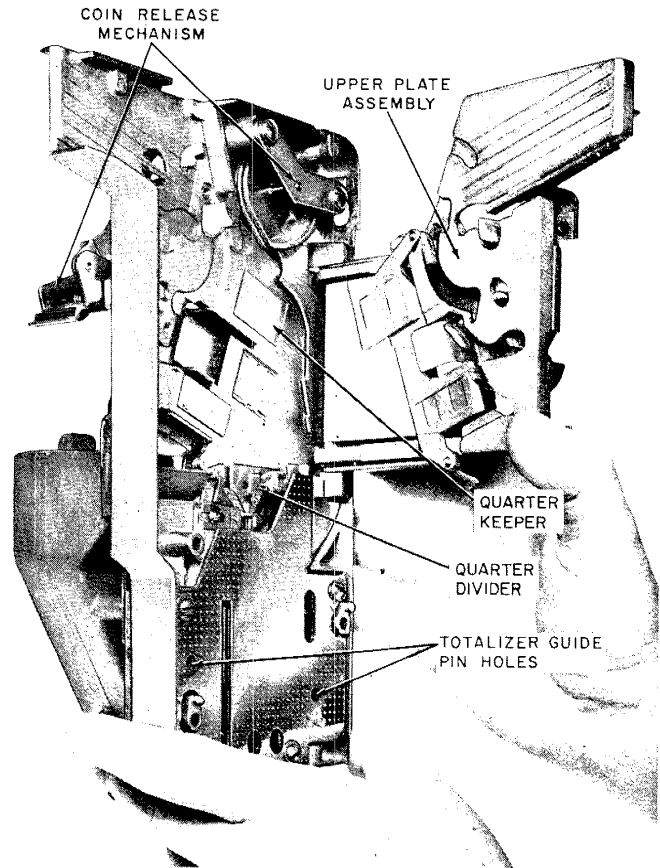

Fig. 20—Coin Chute Assembly
- (1) Operate coin release lever in attempt to clear coins into return chute.
- (2) If trouble does not clear
- Swing upper plate assembly open (Fig. 20).
Exercise extreme care when closing the upper plate assembly. If the quarter divider (Fig. 20) gets positioned differently from the way shown, it may become damaged when the upper plate assembly is closed.